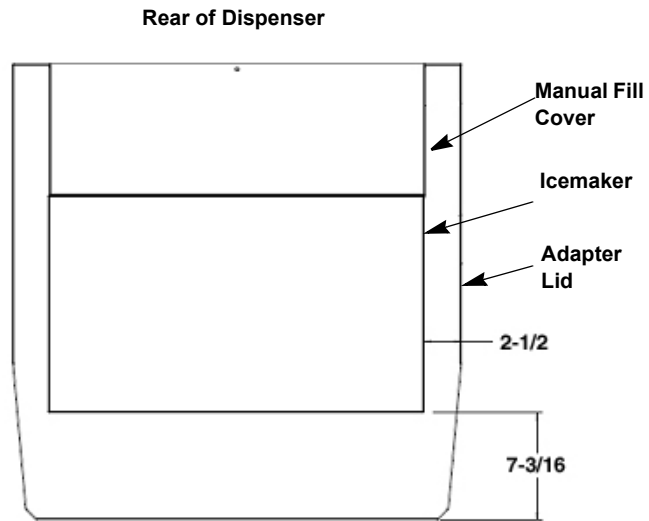

Figure 3
5. Place icemaker on top of the adapter lid (see Figure 3). Dimensions in Figure 3 are to aid in installation only. Be sure that the icemaker ice drop tubes are clearly within the adapter lid opening. Failure to do so may cause damage to icemaker.